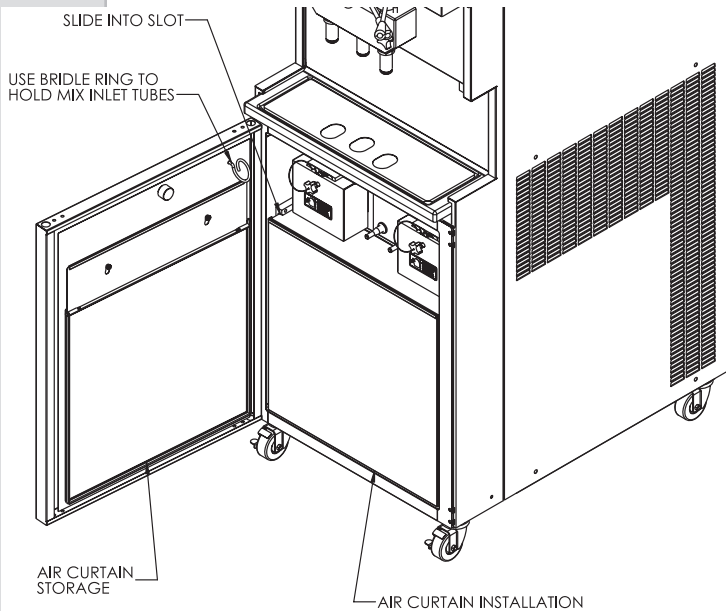

Figure 8-6
7. Cleaning with Mix Stored on Shelf Insure air curtain is installed for Cabinet Refrigeration (figure 8-6).